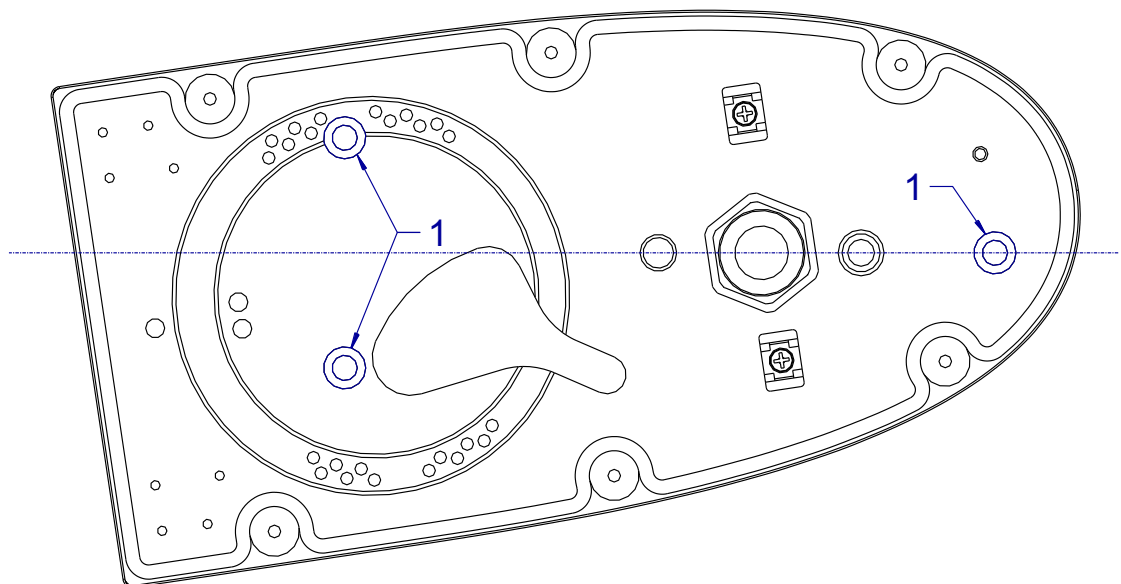

Fig. 16 – Example of mounting orientation, apertures and sealing spots, right camera cover
*Note* After mounting camera cover base, the marked spots (Fig. 16) must be sealed.